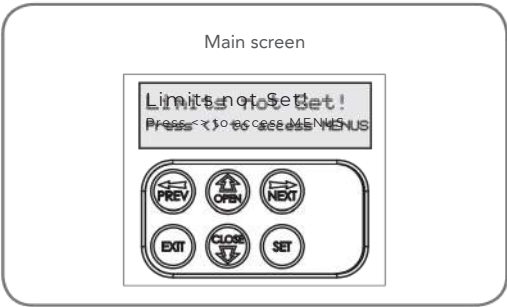

Fig 6.3
- b. If this is the first time the NeoSlider™ has been used, the **MAIN SCREEN** should indicate that the limits are not set (Fig. 6.3). If the display shows that some input is active then rectify the situation before proceeding. If a default setting is to be changed it should be done now before setting the travel limits.